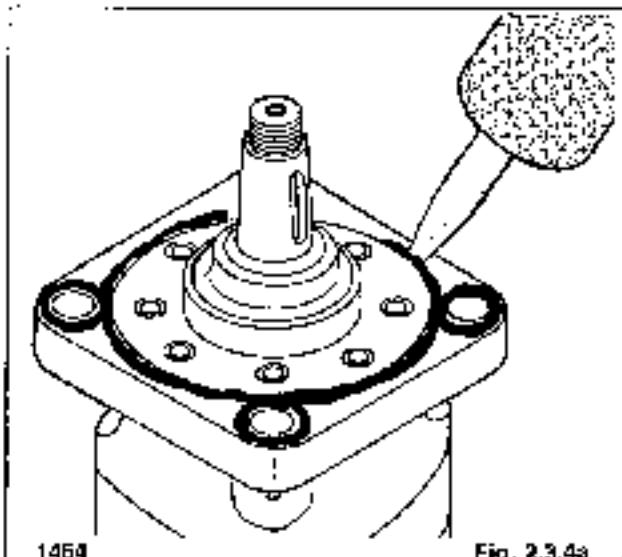

Fig. 2.3.4a
1. Apply silicon sealant around the torque motor flange (fig. 2.3.4a) to prevent oil leakage from the final drive housing.